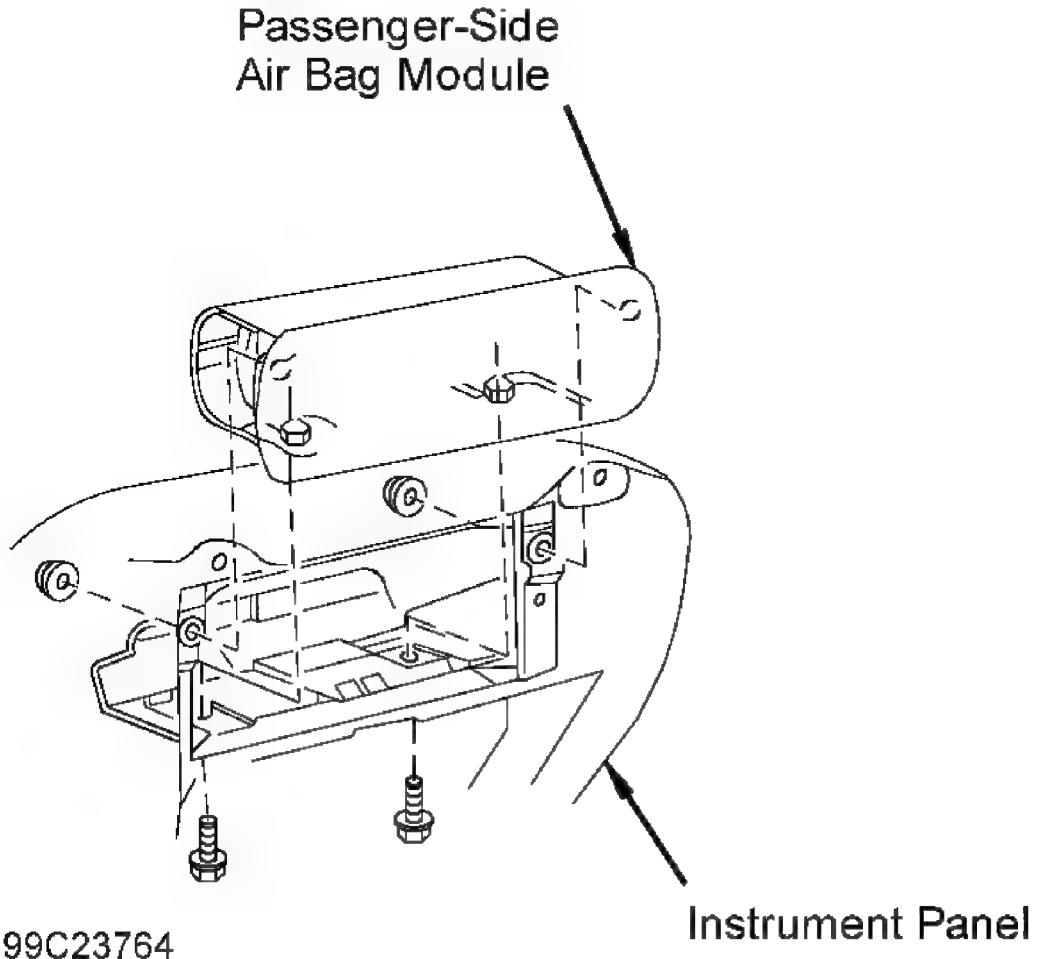

Fig. 10: Identifying Passenger-side Air Bag Module
2. Remove radio. Remove glove box door. Remove Connector Position Assurance (CPA) clip and disconnect passenger-side air bag module Yellow 2-pin connector. Remove 2 nuts and 2 bolts from air bag module. See **Fig. 10**. Remove passenger-side air bag module.